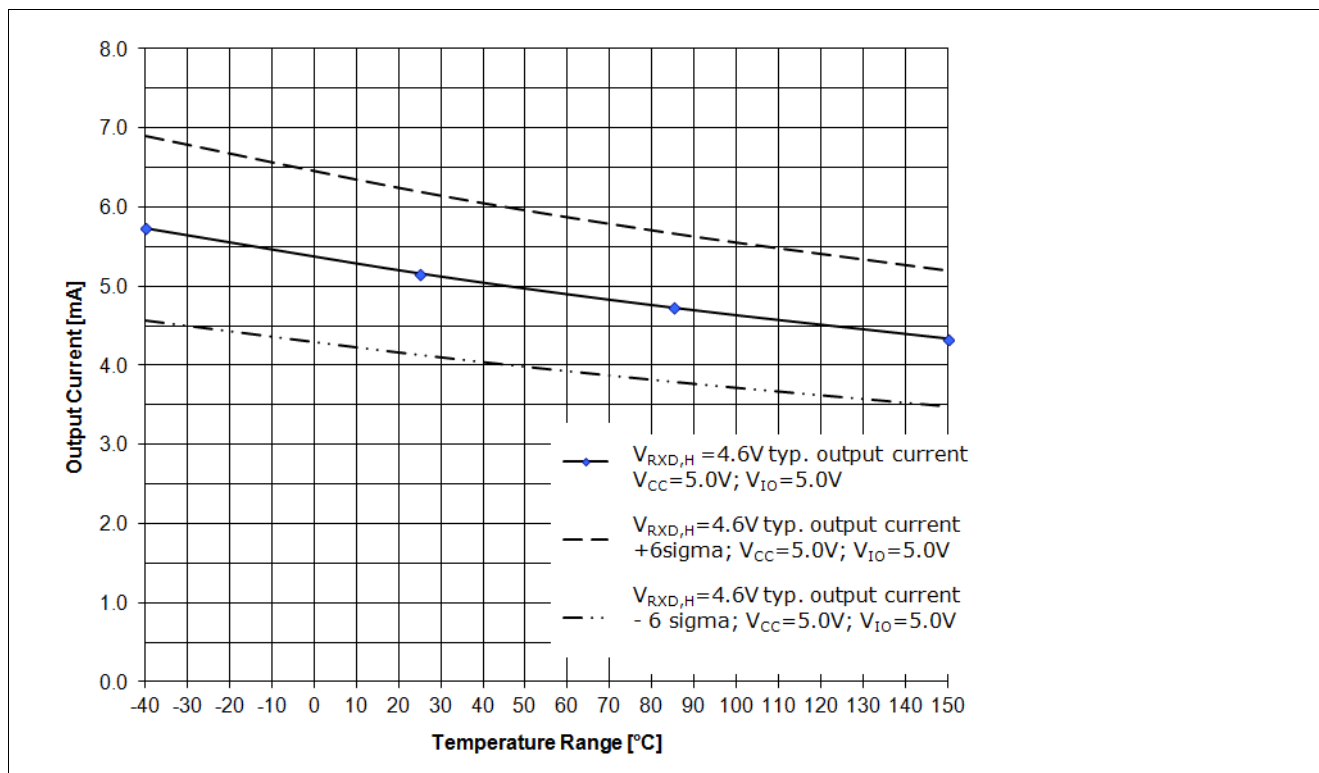
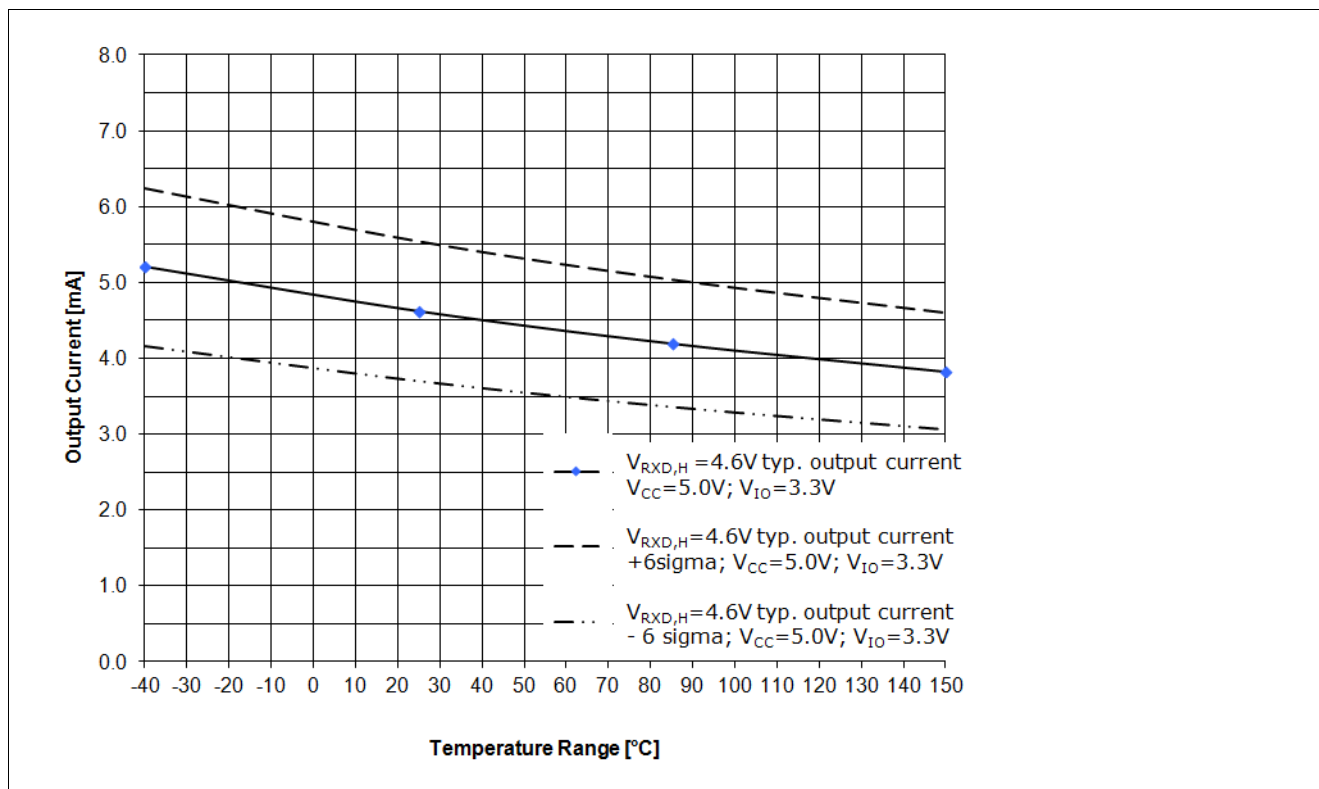

Figure 11 RxD Output driver capability for a logical "High" signal  $V_{RxD,H} = 4.6V$ ,  $V_{CC} = 5.0V$ ,  $V_{IO} = 5.0V$ 1)
Figure 12 RxD Output driver capability for a logical "High" signal  $V_{RxD,H} = 4.6V$ ,  $V_{CC} = 5.0V$ ,  $V_{IO} = 3.3V$ 1)
The diagram in Figure 11 shows the output current capability of the RxD output pin depended on the chip temperature  $T_J$  at a  $V_{IO}$  power supply of 5.0 V. Figure 12 shows the output current capability of the RxD output pin at a  $V_{IO}$  power supply of 3.3 V.
- The curve “ $V_{RxD,H} = 4.6$  V; **typ. output current**;  $V_{CC} = 5.0$  V;  $V_{IO} = 5.0$  V;” displays the typical output current at the RxD output pin of the TLE8250GVIO (see Figure 11).
- The curve “ $V_{RxD,H} = 4.6$  V; **typ. output current + 6 sigma**;  $V_{CC} = 5.0$  V;  $V_{IO} = 5.0$  V;” displays the expected maximum value of the output current at the RxD output pin (see Figure 11).
- The curve “ $V_{RxD,H} = 4.6$  V; **typ. output current - 6 sigma**;  $V_{CC} = 5.0$  V;  $V_{IO} = 5.0$  V;” displays the expected minimum value of the output current at the RxD output pin (see Figure 11).
- The curve “ $V_{RxD,H} = 4.6$  V; **typ. output current**;  $V_{CC} = 5.0$  V;  $V_{IO} = 3.3$  V;” displays the typical output current at the RxD output pin of the TLE8250GVIO (see Figure 12).
- The curve “ $V_{RxD,H} = 4.6$  V; **typ. output current + 6 sigma**;  $V_{CC} = 5.0$  V;  $V_{IO} = 3.3$  V;” displays the expected maximum value of the output current at the RxD output pin (see Figure 12).
- The curve “ $V_{RxD,H} = 4.6$  V; **typ. output current - 6 sigma**;  $V_{CC} = 5.0$  V;  $V_{IO} = 3.3$  V;” displays the expected minimum value of the output current at the RxD output pin (see Figure 12).